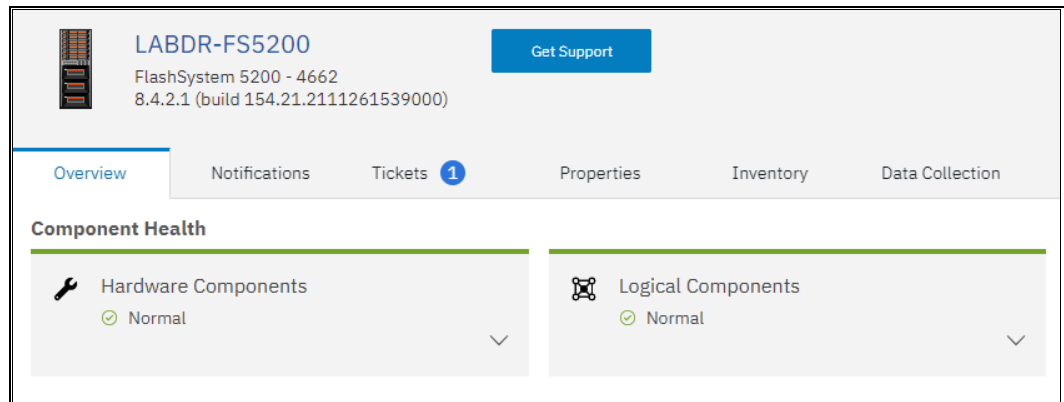

Figure 11-15 IBM Storage Insights Get Support option
1. In the IBM Storage Insights dashboard, choose the system for which you want to create the ticket. Then, select **Get Support** (see Figure 11-15).